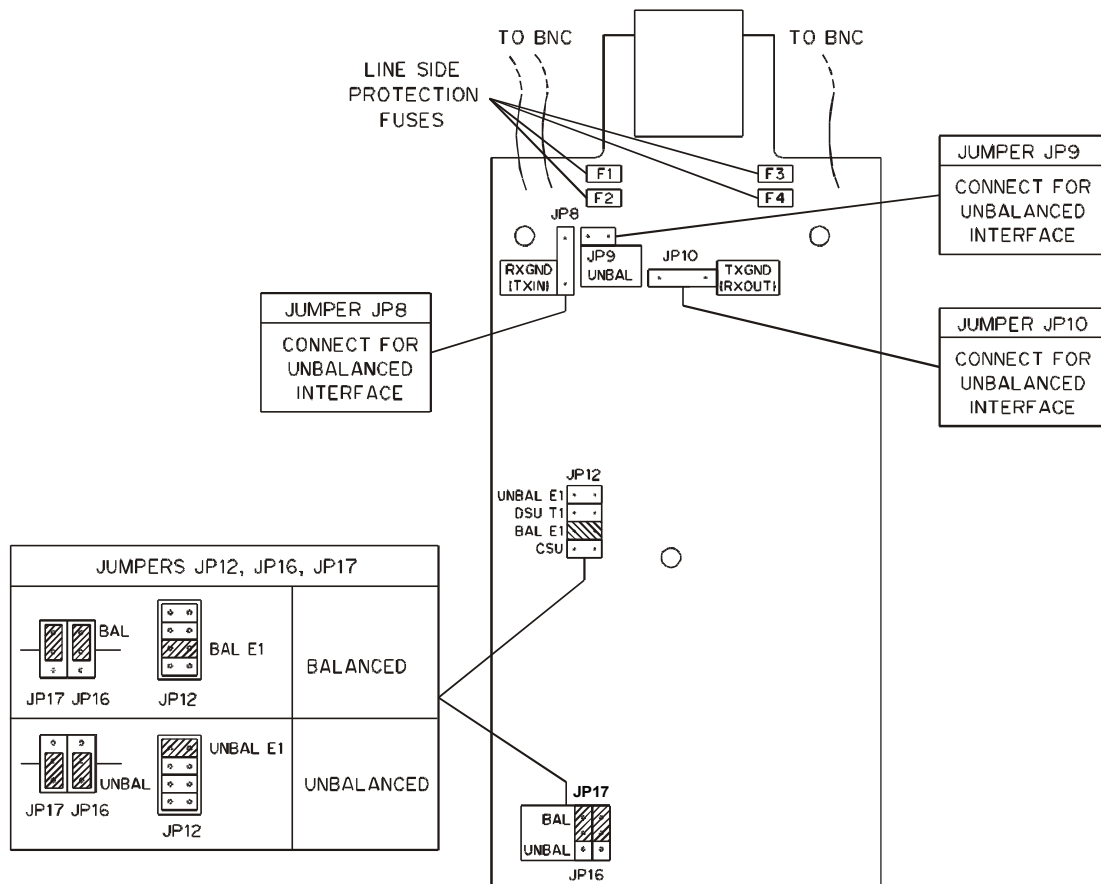

Figure 2-4 E1 Sublink Interface Board, Internal Settings
- Identify jumper and switch locations and settings on the Sublink Interface Board (referring to *Figure 2-4*) and change settings as required.
Figure 2-4 shows the component side of the E1 sublink interface board, as seen after it is removed from the unit.
The interface board has protection fuses for the surge protection circuits located on the line side of the line isolation transformers. These fuses are also identified in Figure 2-4.